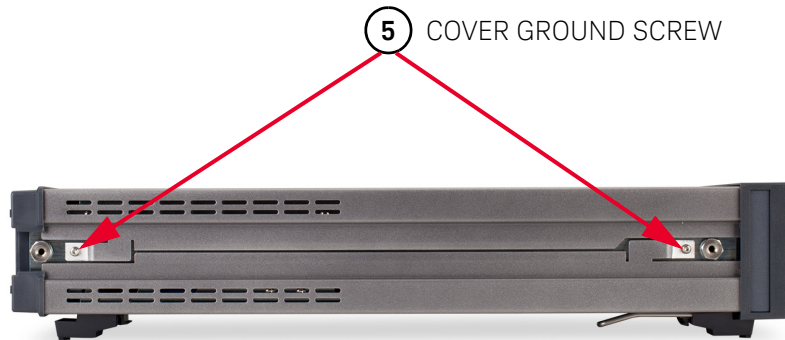

Figure 3-3 Remove/Install cover ground screws
- 7** Refer to Figure 3-3. Use the #TX10 Torx driver to remove both or either the top and bottom cover ground screws, depending on which cover is to be removed.
- 16 Refer to Figure 3-3. Turn the instrument so its left side faces you. Use the #TX10 Torx driver to reinstall the top and/or bottom cover ground screws.